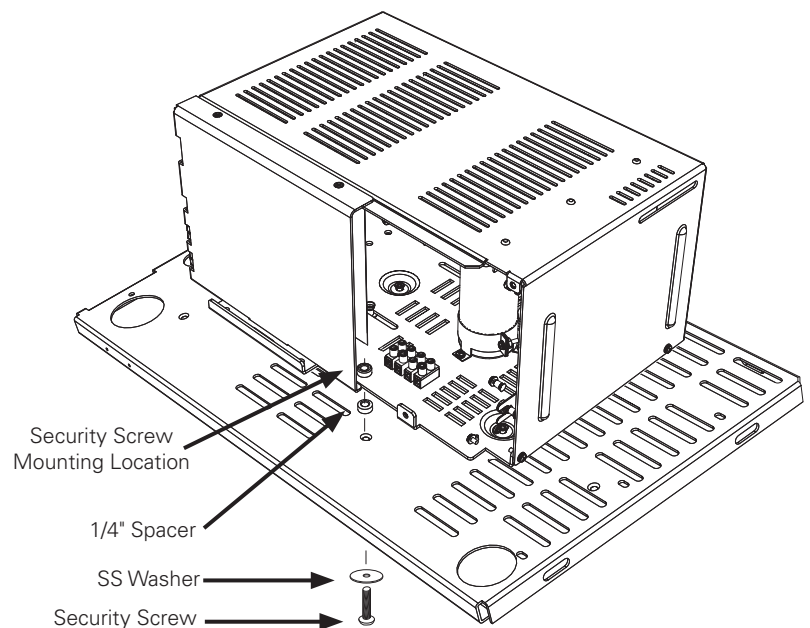

Fig. 2-3, Power Supply/Enclosure Shelf Security Screw Stack Up
5. Position the XM3-HP power supply with the security hole over the drilled hole and spacer (use the center punch to hold the spacer in place while situating the power supply) (see **Fig. 2-3**).